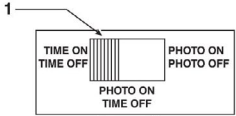

Figure 1
- 1. **In Time ON/Time OFF Mode** (figure 1) the channel is controlled by timer functions and light level is irrelevant. All events are executed by the timer schedule. For programming the timer, refer to section 6.0.